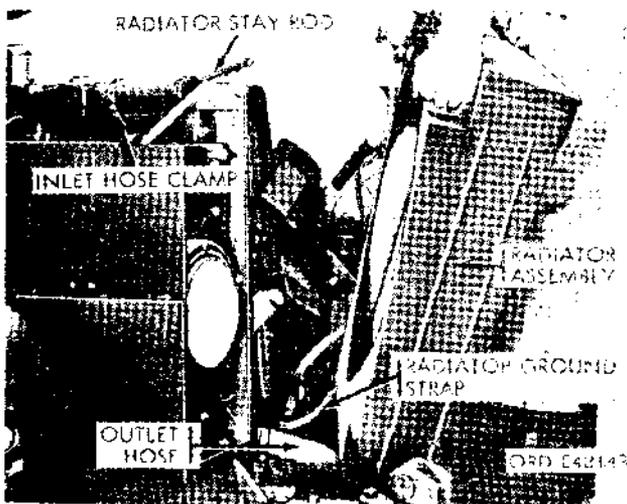

Figure 2-126. Removing radiator assembly.
(9) Lift the radiator (fig. 2-126) away from the mounting place.
(8) Slide the front end of the radiator inlet hose (fig. 2-126) on the radiator inlet, and tighten the hose clamp.
(9) Install the brush guard (para 2-236).
(10) Fill the cooling system. Refer to TM 9-2320-211-10.